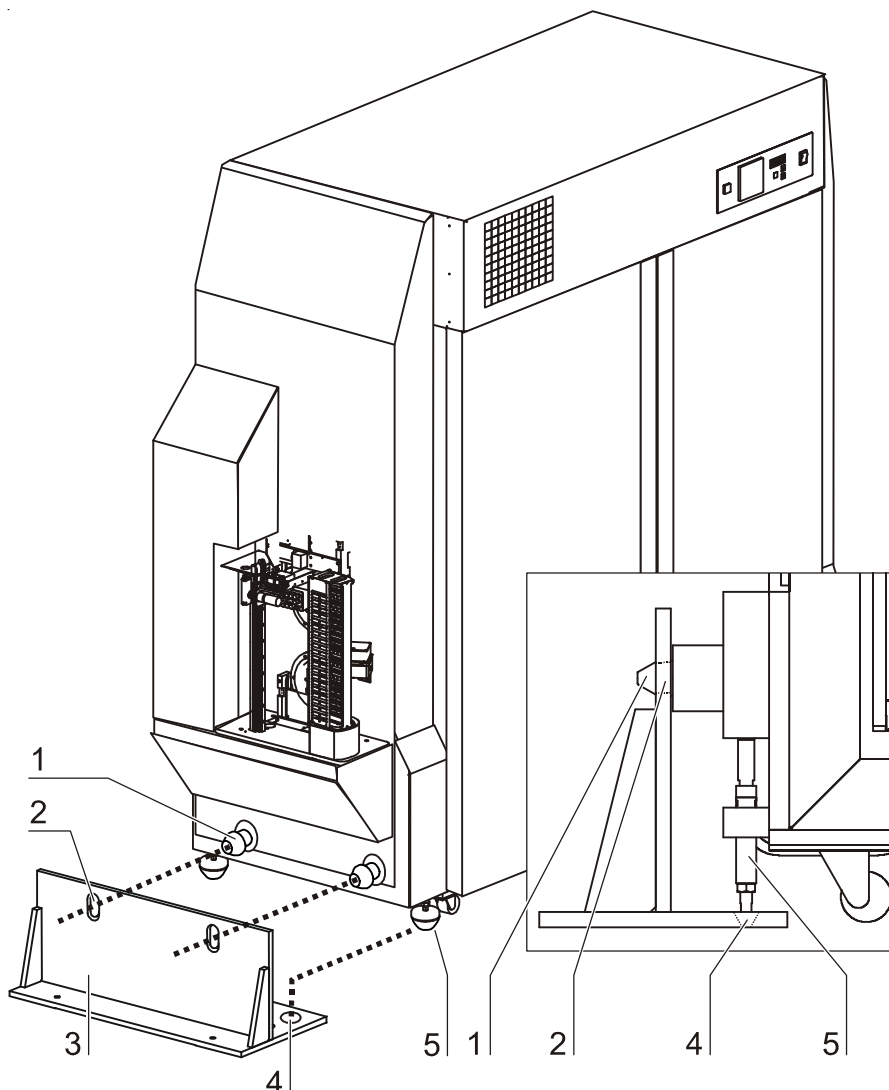

Fig. 16,
1. **Fig. 16:** Move the storage cabinet to the required position at the integrator / transport system and align it exactly with the transfer device.